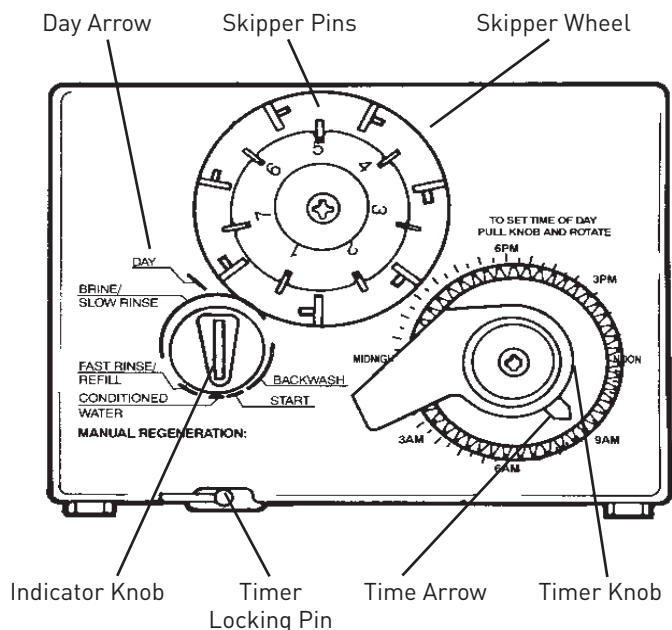
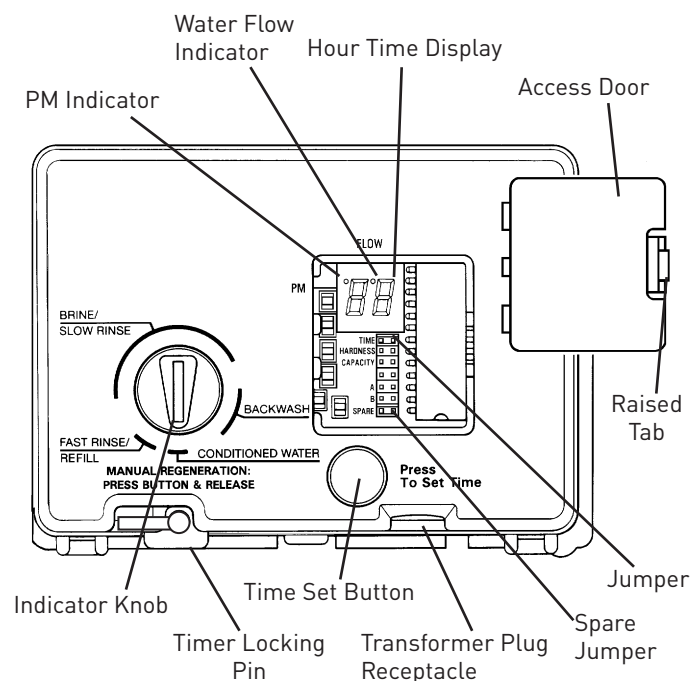

Figure 11
Figure 12
**NOTE: The following steps will require turning the indicator knob (Figures 11, 12, and 16) to various positions. Insert a wide-blade screwdriver into arrow slot in indicator knob and press in firmly. With knob held in, rotate COUNTERCLOCKWISE only until arrow or knob points to desired position. Rotation is made much easier if you grasp the camshaft with your free hand and turn it at the same time. Then permit knob to spring back out.**
2. Insert screwdriver into slot in indicator knob (Figures 11, 12, and 16). Press in and rotate knob **COUNTERCLOCKWISE** until arrow points directly to the word **BACKWASH**.
- Set days of regeneration on skipper wheel (Figure 11).
**NOTE:** The Timer Locking Pin should always be horizontal (Figure 11) during operation.
Open the access door by pushing the raised tab on the door toward the left while pulling the tab out (Figure 12).
**NOTE:** The Timer Locking Pin should always be horizontal (Figure 12) during operation.
When abnormally high water usage exhausts your water conditioner's capacity ahead of schedule, an extra regeneration can be achieved. Depress the indicator knob on the 440i (Figure 11) with a wide-blade screwdriver and turn **COUNTERCLOCKWISE** to **START** to initiate a regeneration. For the 460i, simply depress the indicator knob (Figure 12). It will take a few minutes for regeneration to start. A normal regeneration will take approximately two hours.